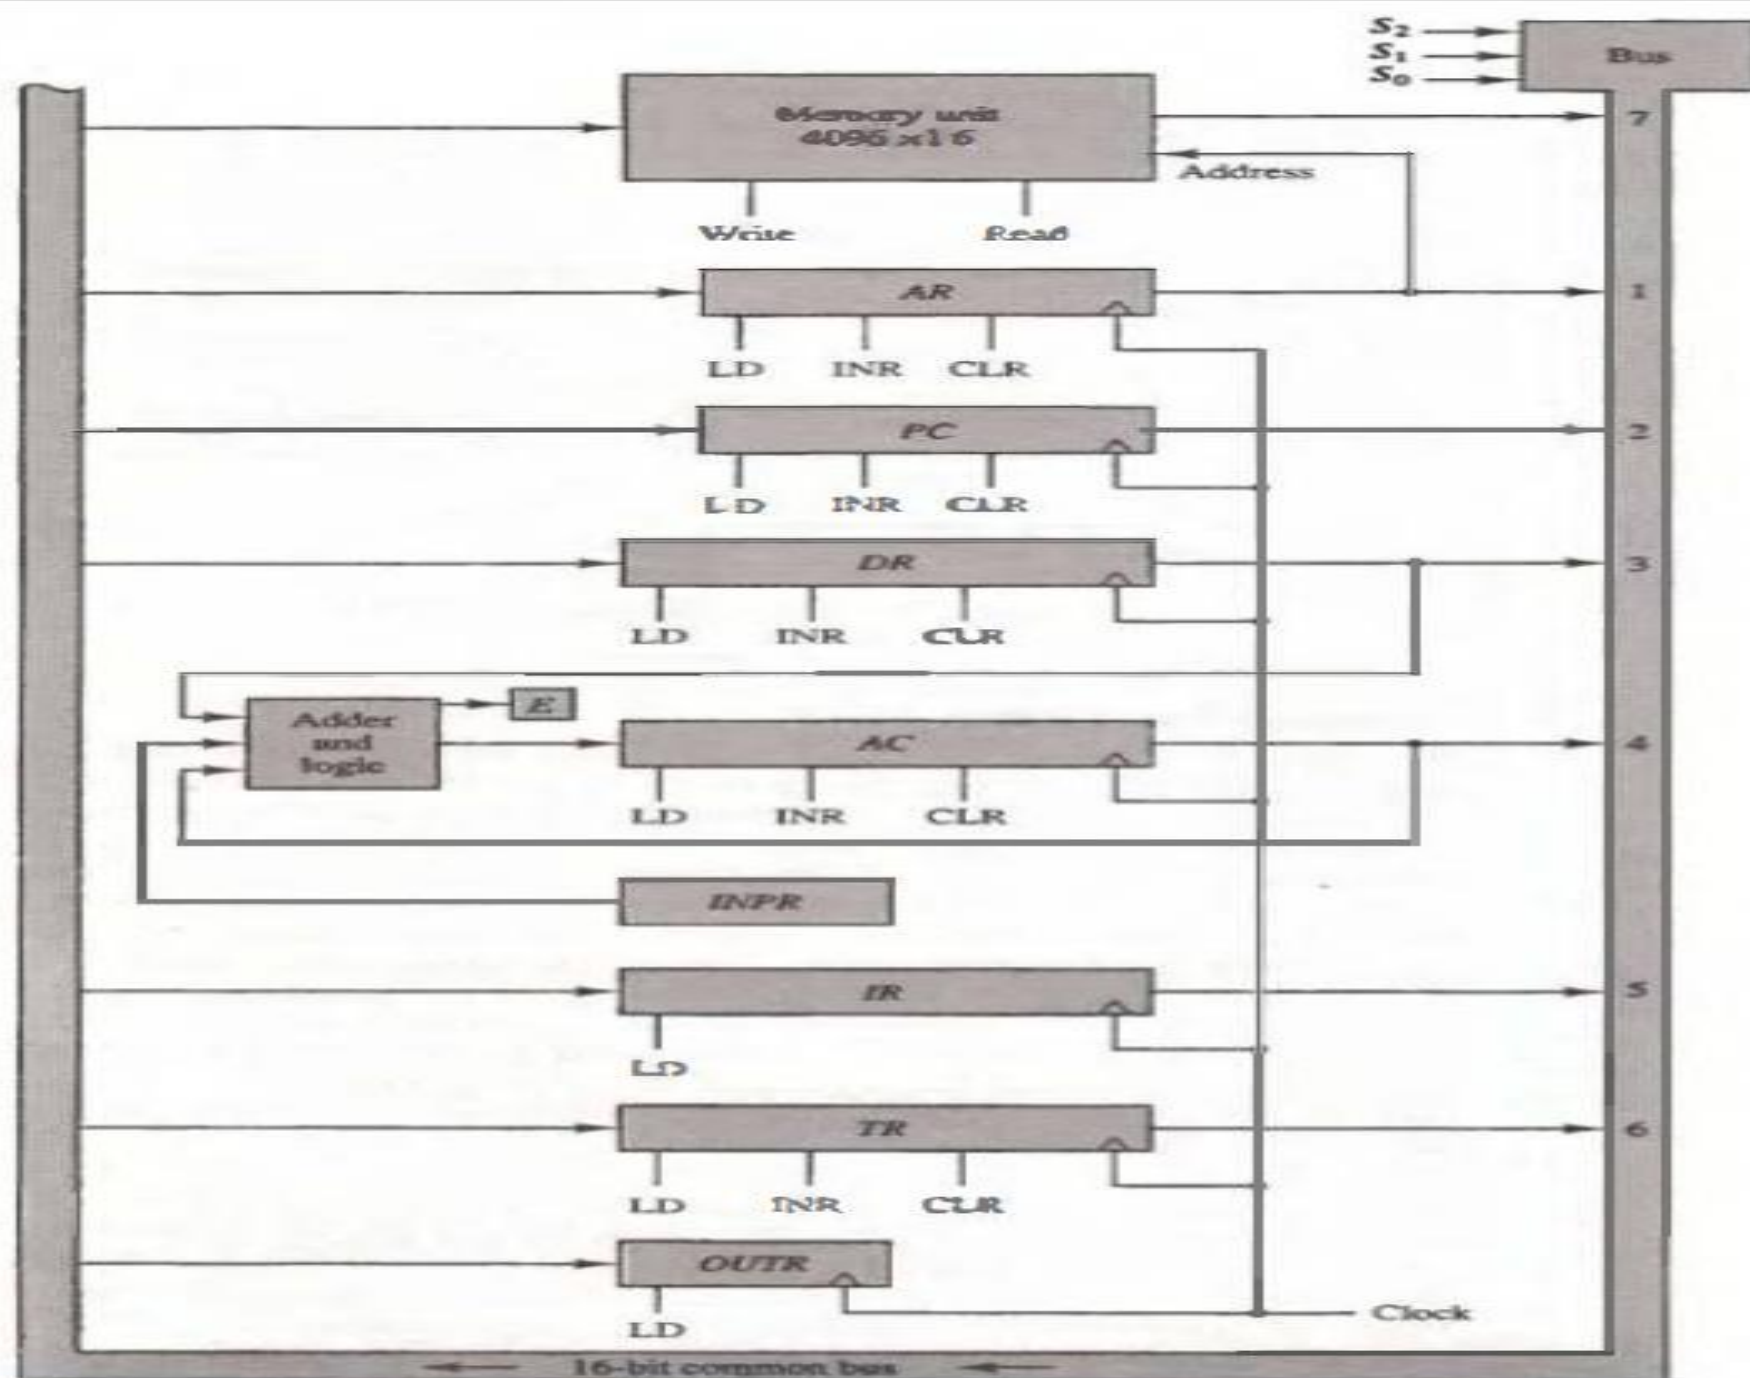

Figure 5-4 Basic computer registers connected to a common bus.
- ❖ The connection of the registers and memory of the basic computer to a common bus system is shown in Fig. 5-4.